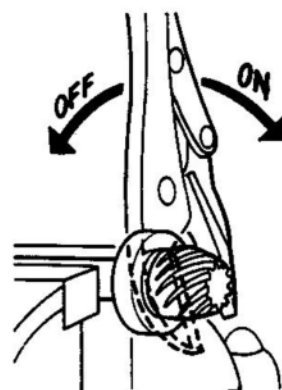

FIG 63
2. To remove pinion, grip shaft just behind bearing in jaws of vice (Fig. 63) and unscrew pinion counter (anti) clockwise (normal thread) with vice grips. If tight, heat to break loctite seal.